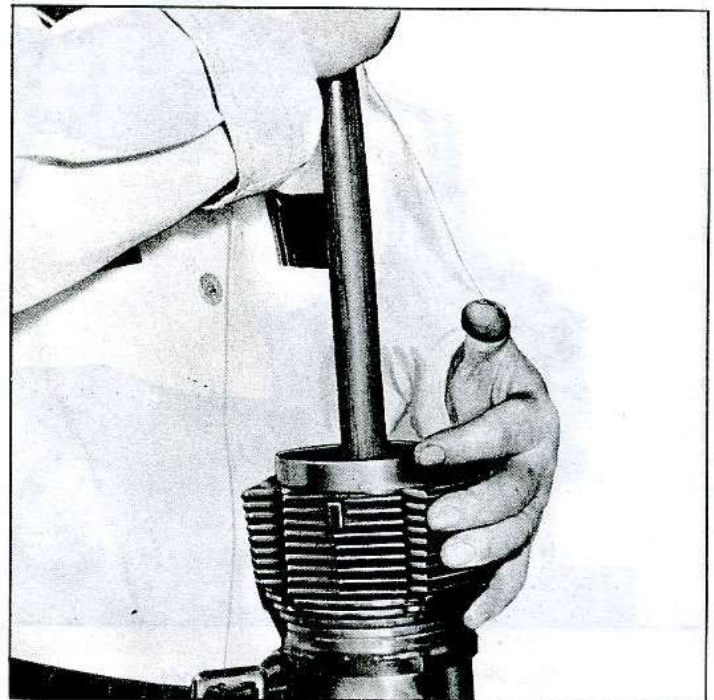

Fig. 97—Removing Piston from Cylinder
1. Remove piston assembly from cylinder, by pushing piston through cylinder with the end of a hammer handle (fig. 97).